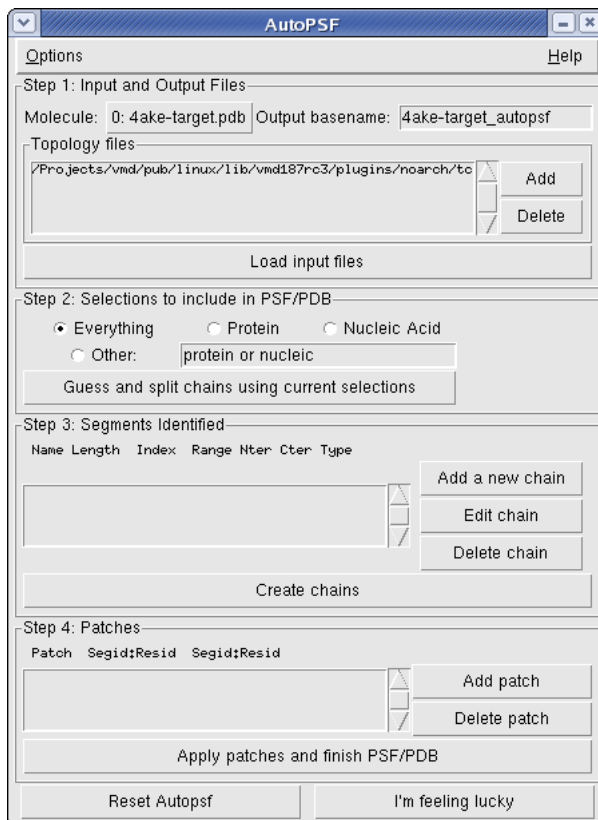

Figure 3: The VMD AutoPSF window.
- 2 To make sure the target structure is complete, we will use the VMD plugin AutoPSF, which automates building structures for molecular dynamics simulations. In the VMD Main window, choose Extensions → Modeling → Automatic PSF Builder (Fig. 3).